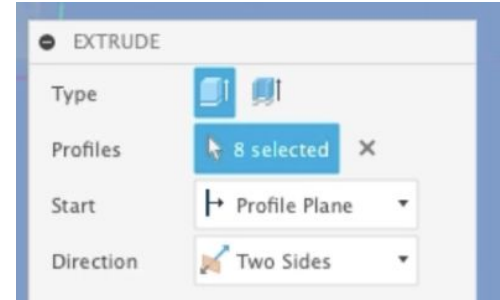

Figure 1.7
- In this step, you'll create a multi-directional extrude. In the extrude window, you'll change the Direction setting to '**Two-Sided**' (see Figure 1.7).